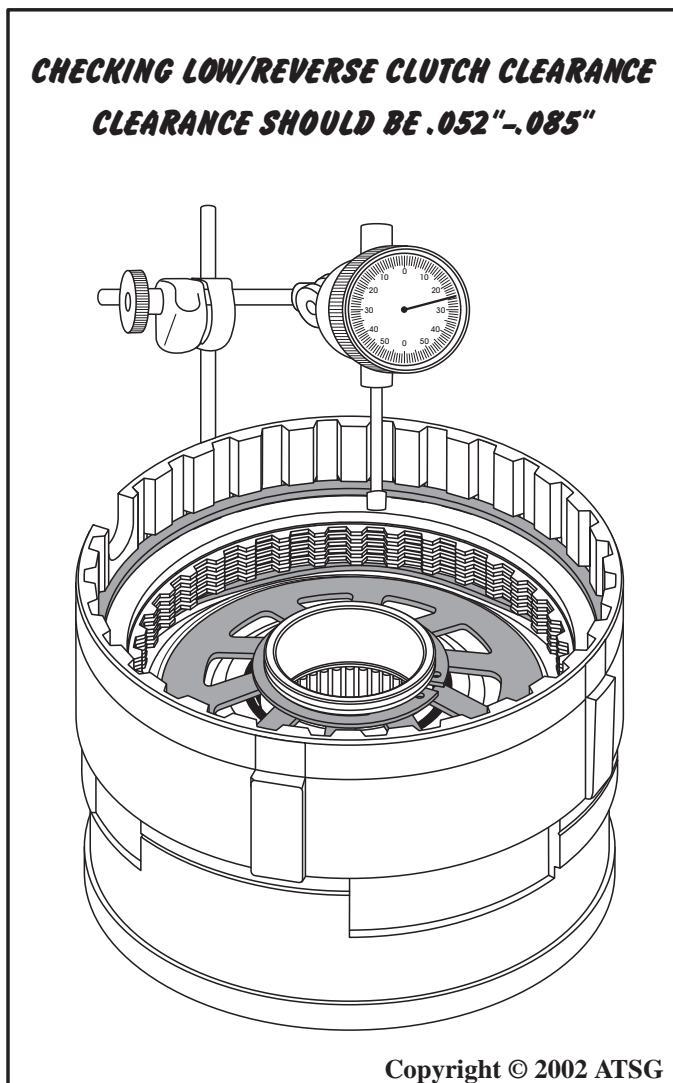

Figure 138
14. Install dial indicator on top of the low/reverse clutch backing plate, as shown in Figure 138, and zero the dial indicator.